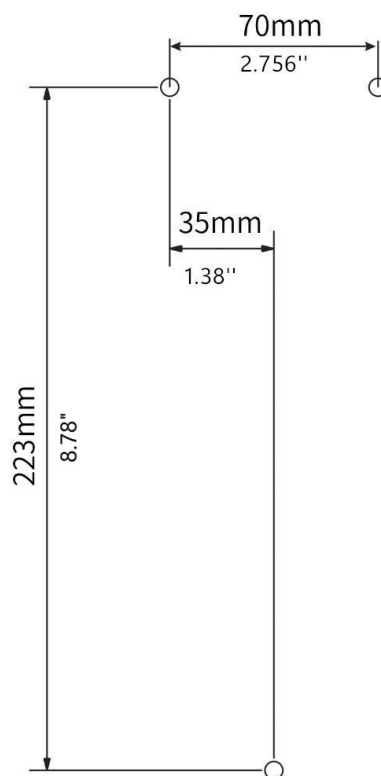

Figure 4.1 Relative Position for Screw Holes on the Wall
- 1) Drill 3 holes with a diameter of **6mm (0.23 inches)** and a depth of at least **50mm (2 inches)** on the wall for the screws with their relative positions shown in **Figure 4.1**.